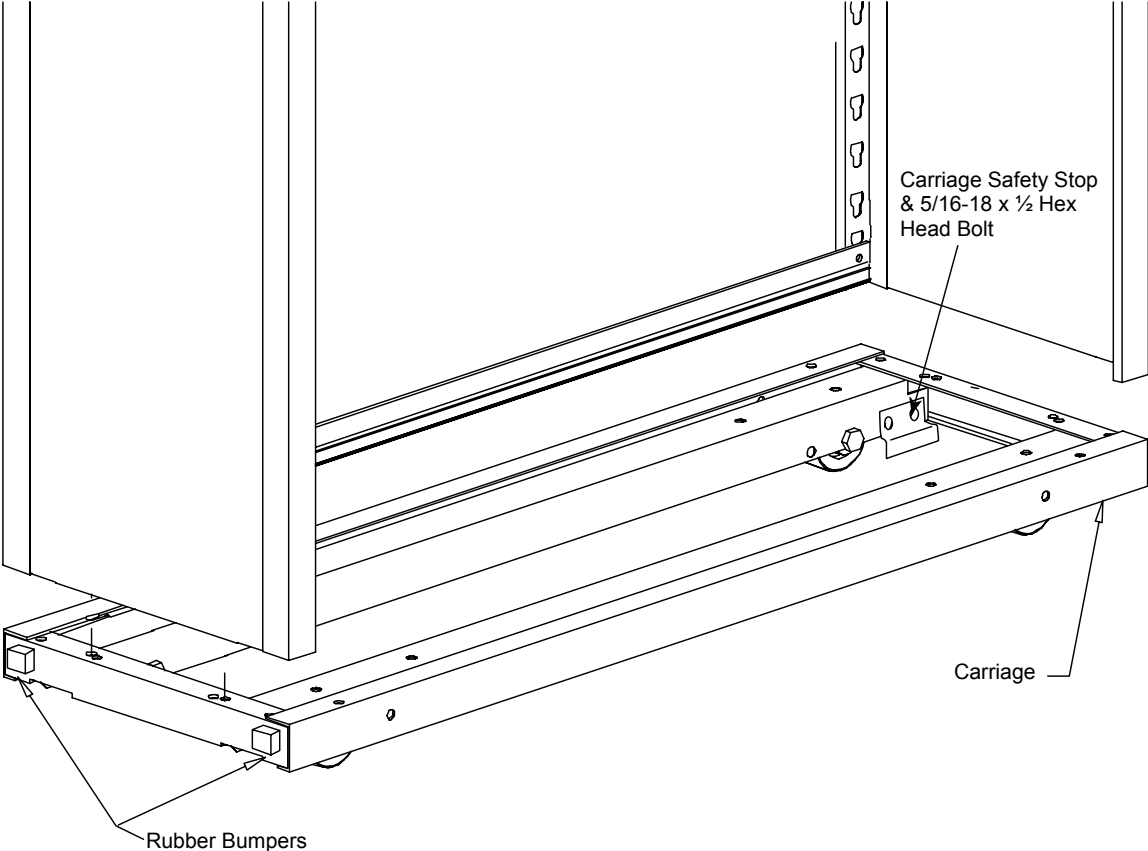

FIGURE 17
- STEP 1** Install Carriage(s) onto Deck assembly. Install the Carriage Safety Stops to the outside of the wheel's main beam(s). **See Figure 17.** Attach the Carriage Safety Stops with two (2) 5/16–18 x 1/2 hex head bolts.
- STEP 2** Peel protective backing on adhesive on two (2) Rubber Bumper squares. Adhere to both sides of Carriage at the bottom. **See Figure 17.**